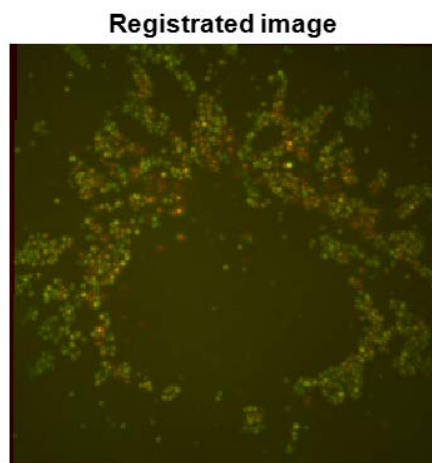

Figure 7. Overlaid projection images from two detection planes after alignment calibration.
- Step 4. Click ‘Show merge’ button to show the overlaid projection images from two detection planes after alignment calibration (Figure 7).